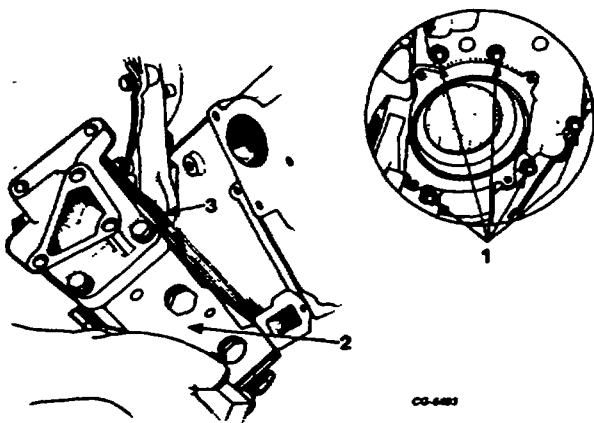

Figure 155. Water Pump Housing Removal
- 12. Remove water pump housing with thermostat housing from crankcase by removing five bolts and oil cooler water return line, remove housing with water return tube (Figure 155).